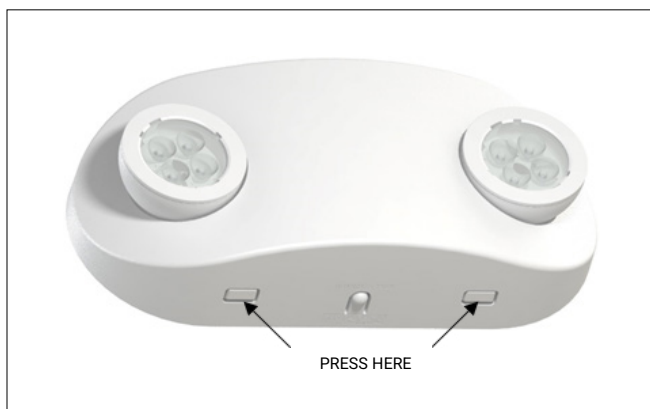

Figure 1
2. Remove the unit's backplate by pushing on the two tabs located on the bottom of the housing (see Figure 1).